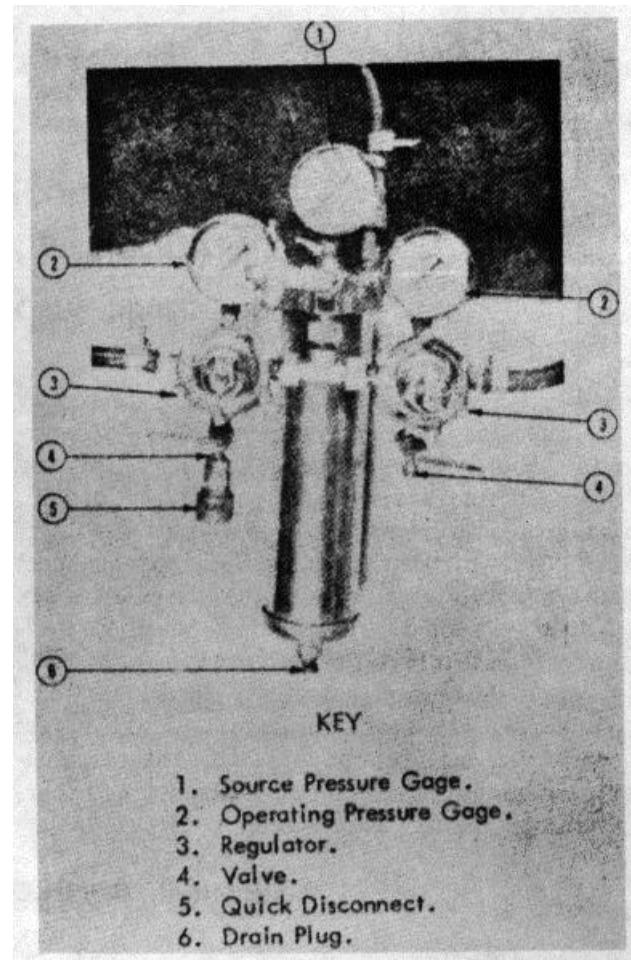

Figure 7. Pneumatic controls and instruments, Semitrailer Mounted Shop Set C-2.
(2) *Pneumatic system, semitrailer mounted shop set.* The air compressor (fig. 12), is electrically driven with a 5 cfm capacity at 175 psi. The compressor and air storage tank are mounted separately (figs. 21 and 22). Air lines are installed (figs. 14, 15, and 17), from the compressor to the air storage tank, from the air storage tank to the oil and water separator and regulators, and from the regulators to the ceiling outlets. The pneumatic system controls and instruments (fig. 7), are mounted as a unit. This unit contains an oil and water separator for collecting and draining off accumulated oil and water, a source. pressure gage, 2
Controls ..... Shut off valve (fig. 7); Oil and water separator, gages, regulators, valves, and check units (fig. 7).
Pneumatic controls and instruments mounted as a part of the air lines installation as illustrated in figure 7. These controls and instruments include valves, regulators, separators, gages, and check units. The air line is installed starting at the left front of the bottom of the shop, passing through the floor to the regulators and separators. The air line is divided into two sections after passing the separators, with one section continuing down each side of the shop, along the ceiling. Two check unit couplings are mounted on each side and another one on the outside front at the bottom of the incoming line.
- (1) Start the air compressor in accordance with the technical manual for the compressor.
- (2) Allow sufficient time for build-up of source pressure in the tank and drain the oil and water separator (fig. 7).
- (3) Close drain when water or oil cease to drain from separator.
- (4) Adjust controls (fig. 7), to obtain an operating pressure of 75 psi.
- (5) Check connections for leaks, security of fittings, and conditions.
- (6) Insert adapters attached pneumatic equipment hose into receptacles provided.